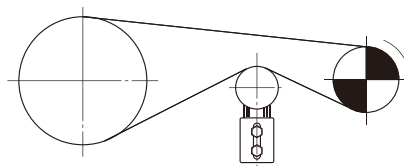

Fig. 5 Tensioner position (front)
- 1) Push in on the roller chain with the tensioner's idler sprocket (Fig. 5) and determine the position of the hole on the attachment base.